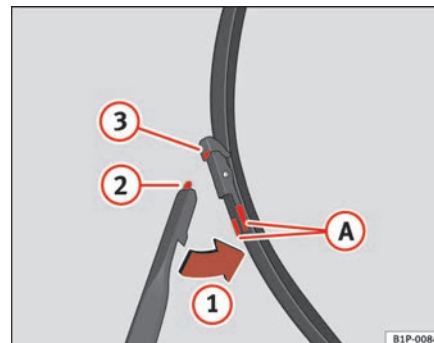

Fig. 143 Changing the front wiper blades
- Press on the side tabs **A** and release the blade moving it in the direction of the arrow **1** ⇒ fig. 143.
- Insert the tab **2** into the slot **3** of the blade ⇒ fig. 143. ▶
- Move the blade towards the arm in the opposite direction of the arrow ①, until it clicks into position ⇒ fig. 143.